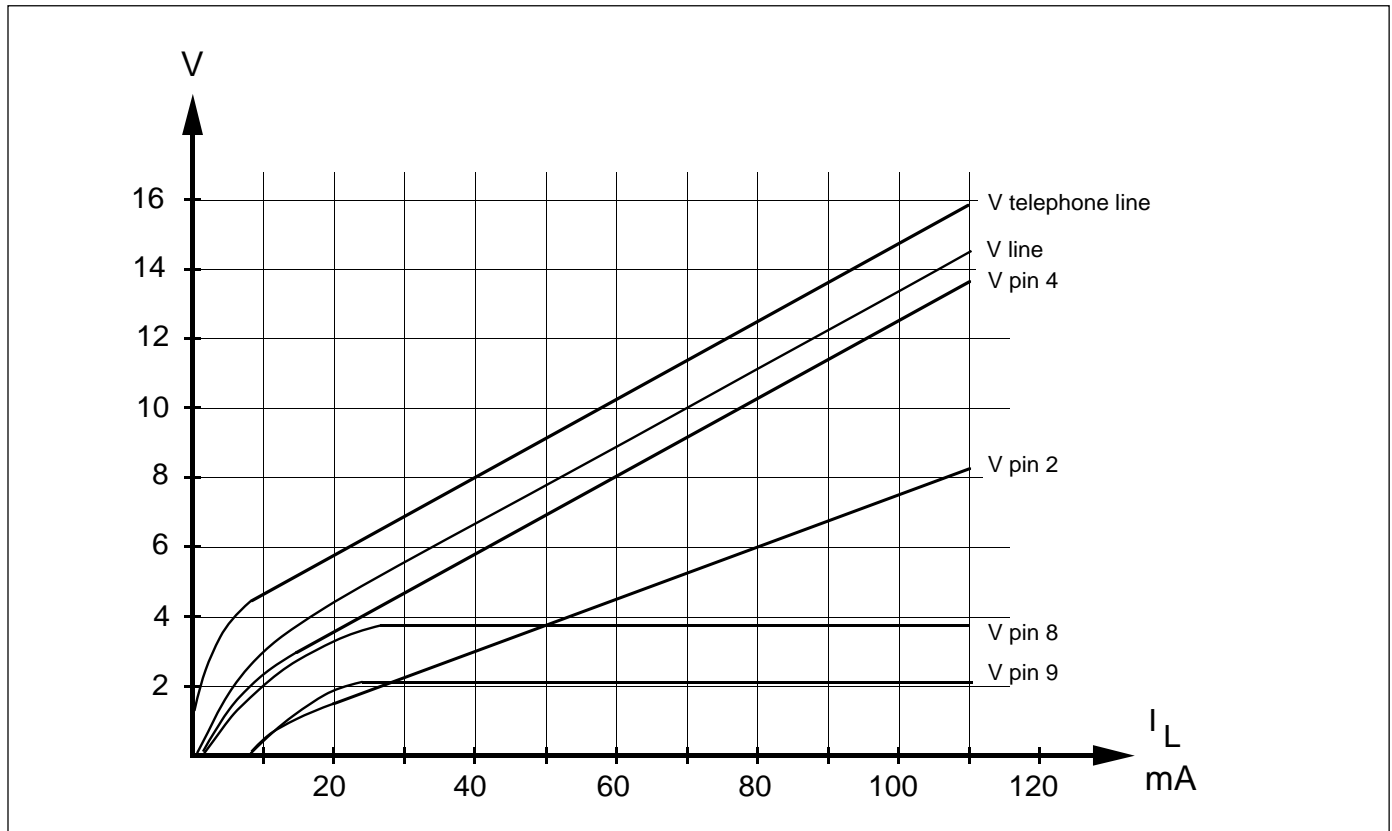

Figure 8. DC-Characteristics. ( $R_7 = 75 \Omega$ )
- Lowest line current dependent of the set DC-characteristic. See page 14, fig 8.
reasonably good temperature behaviour in order to keep the impedance rather constant. The  $V+C$ 's influence on the transmitter DC-characteristic is shown in the fig. 8 therefore the transmitter gain would change if the transmitted signal gives reason to an ac-voltage leak signal across  $C9$ , this being a feedback point. If the transmitter has an unacceptable low swing to the line at low line currents  $< \approx 10mA$  the first should be to examine if the circuits DC-characteristic can be adjusted upwards and first secondly make use of the linear PD.